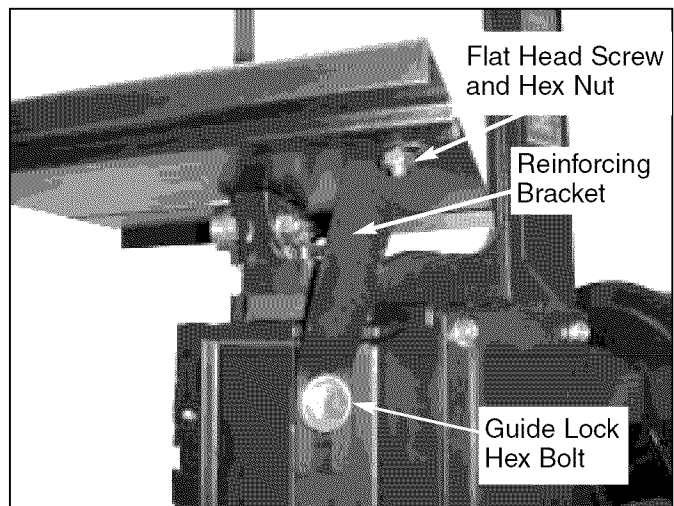

Figure 14 – Installing Vertical Table Reinforcing Bracket
- Attach the other end of reinforcing bracket to head casting using guide lock hex head bolt and washer (see Figure 14).